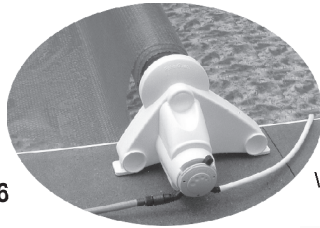

Fig. 6
- Push Water Discharge Hose onto right side of Auto End (Fig. 6)